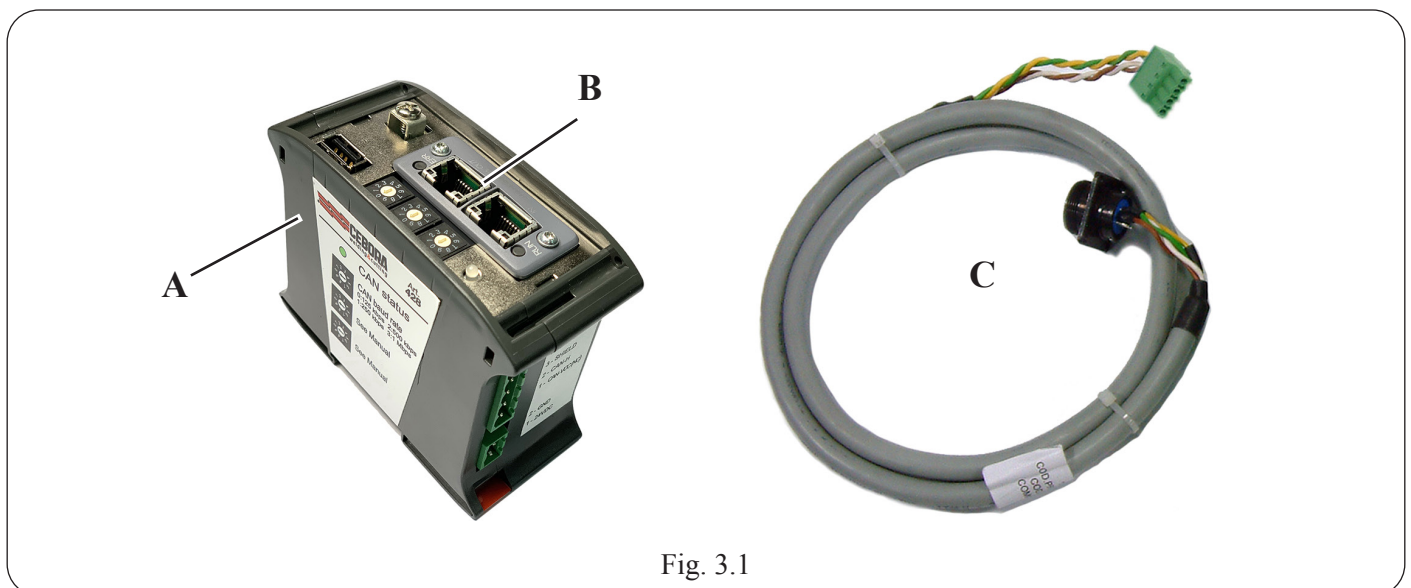

Fig. 3.1
The gateway interface art. 428 is made up by the communication interface (25)**A**, Anybus module **B** and CANopen cable (4)**C** (Fig. 3.1).